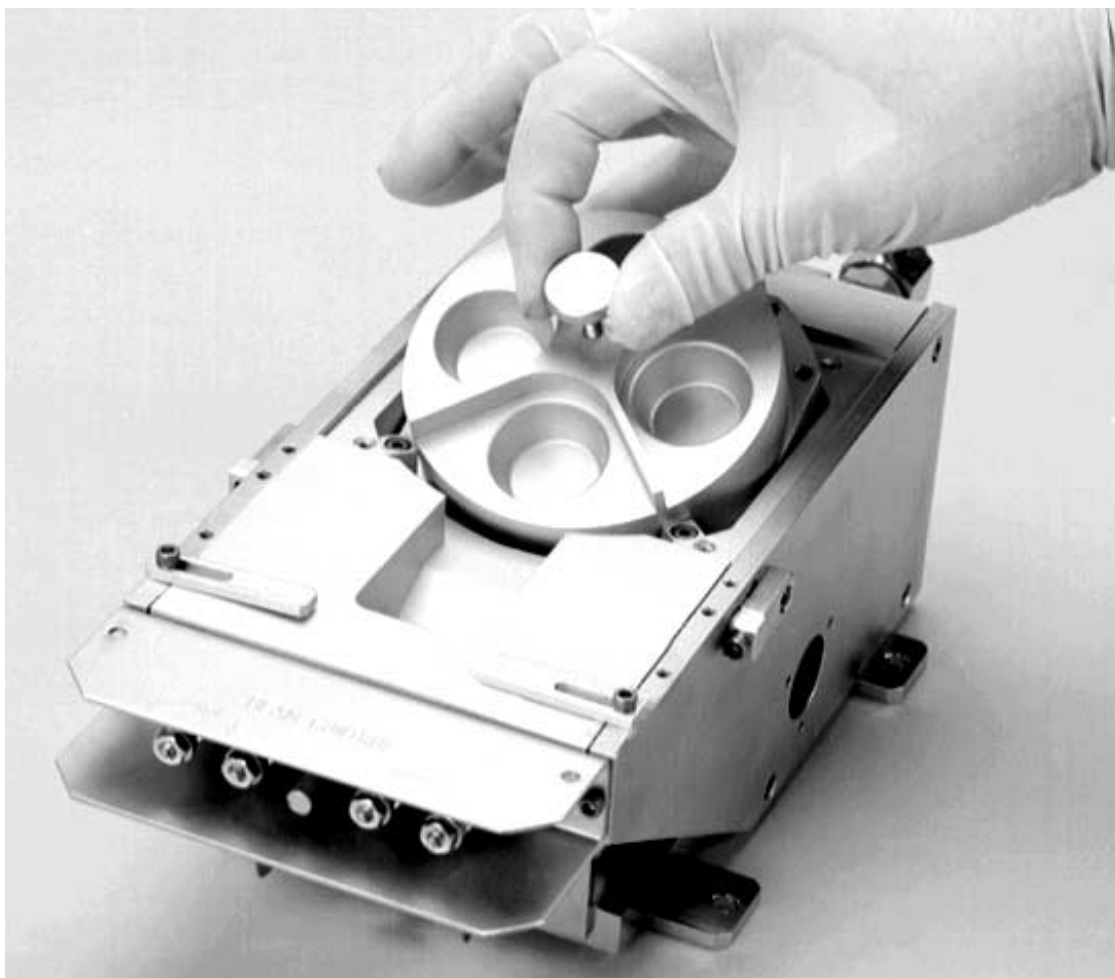

Figure 3-8. Removing the crucible from the source. Note angle of withdrawal
- (c) Pull the crucible clear of the coil housing by angling it upward and backward at the same time, as shown in Figure 3-8. Be very careful at this point not to scrape the crucible's O-ring-sealing surface on the water baffle.
2	Angle the crucible into the position shown in Figure 3-8. Then lower its rear end so that its bottom surface is horizontal, and lower it straight down onto the O-ring.